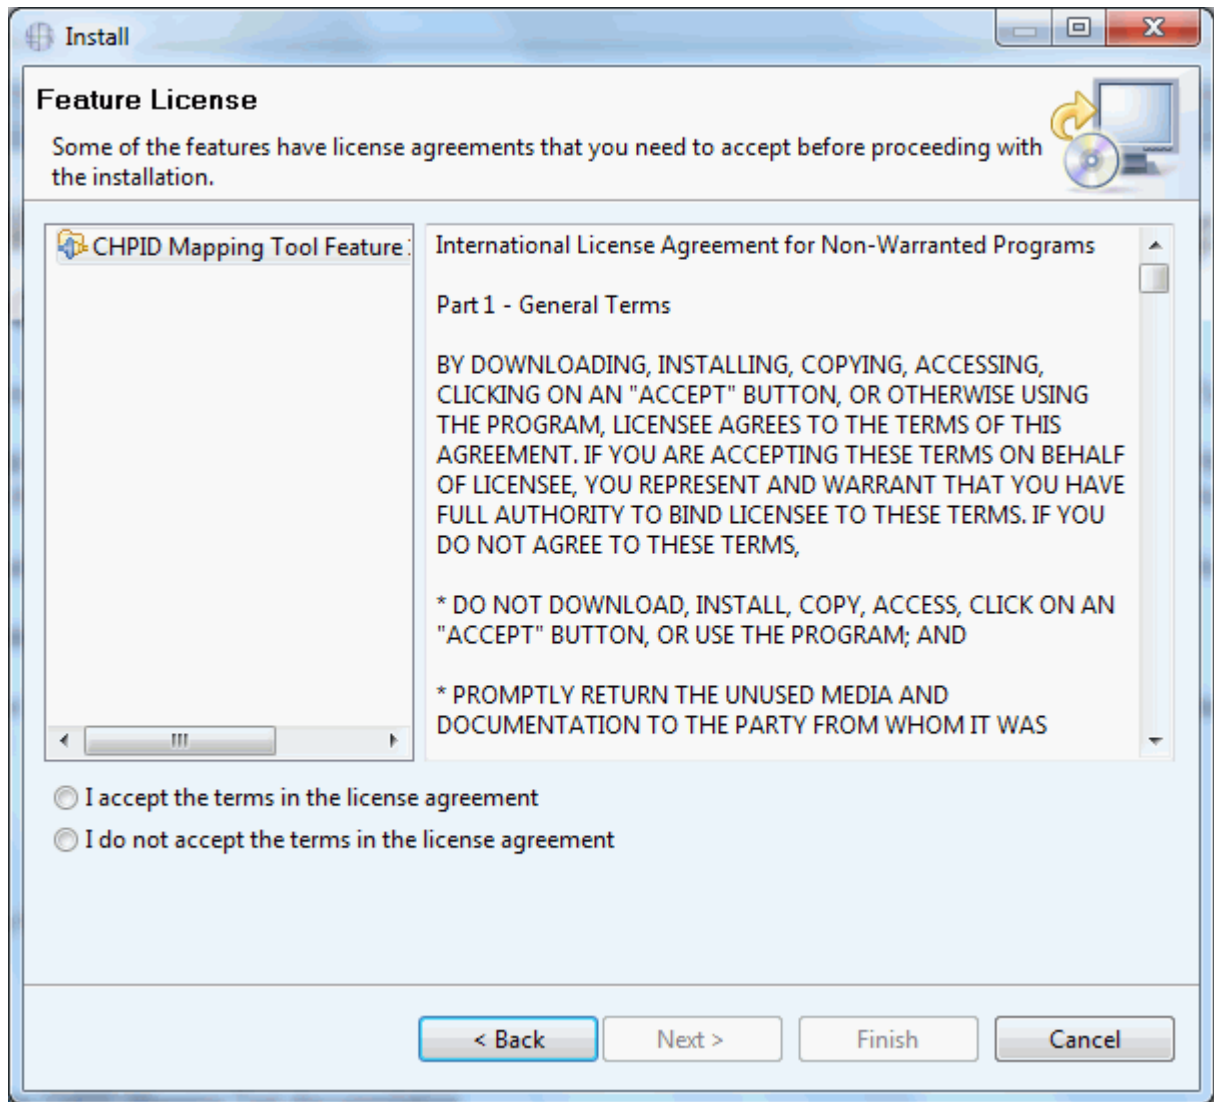

Figure 72. Install window - with feature licensing agreement
5. The Install window opens, displaying the licensing agreement. Figure 72 on page 55 shows this window.